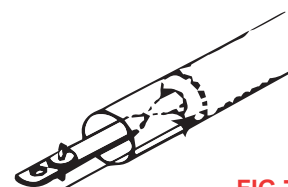

FIG 7
2) It is important that the balances used are suitable for the weight of the sash. They are manufactured in weight groups that are identified by a colour (Fig. 7).